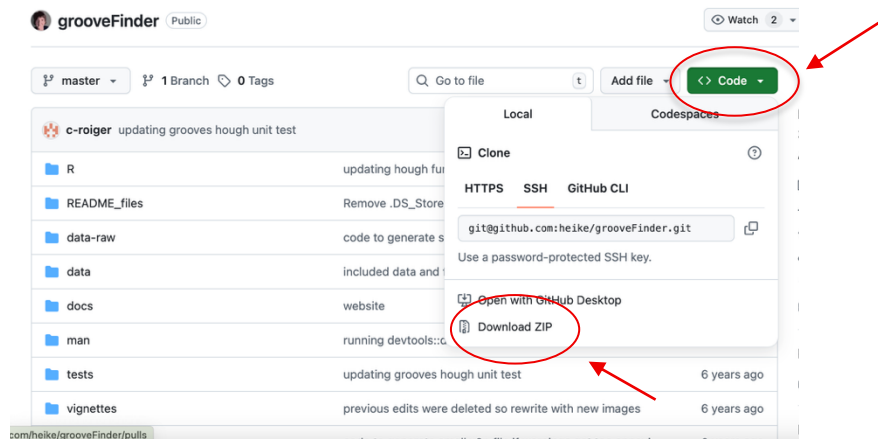

Figure 1. Click Code and then Download ZIP on the grooveFinder GitHub page to download grooveFinder.
- Click the green Code button and select Download Zip. (Figure 1)